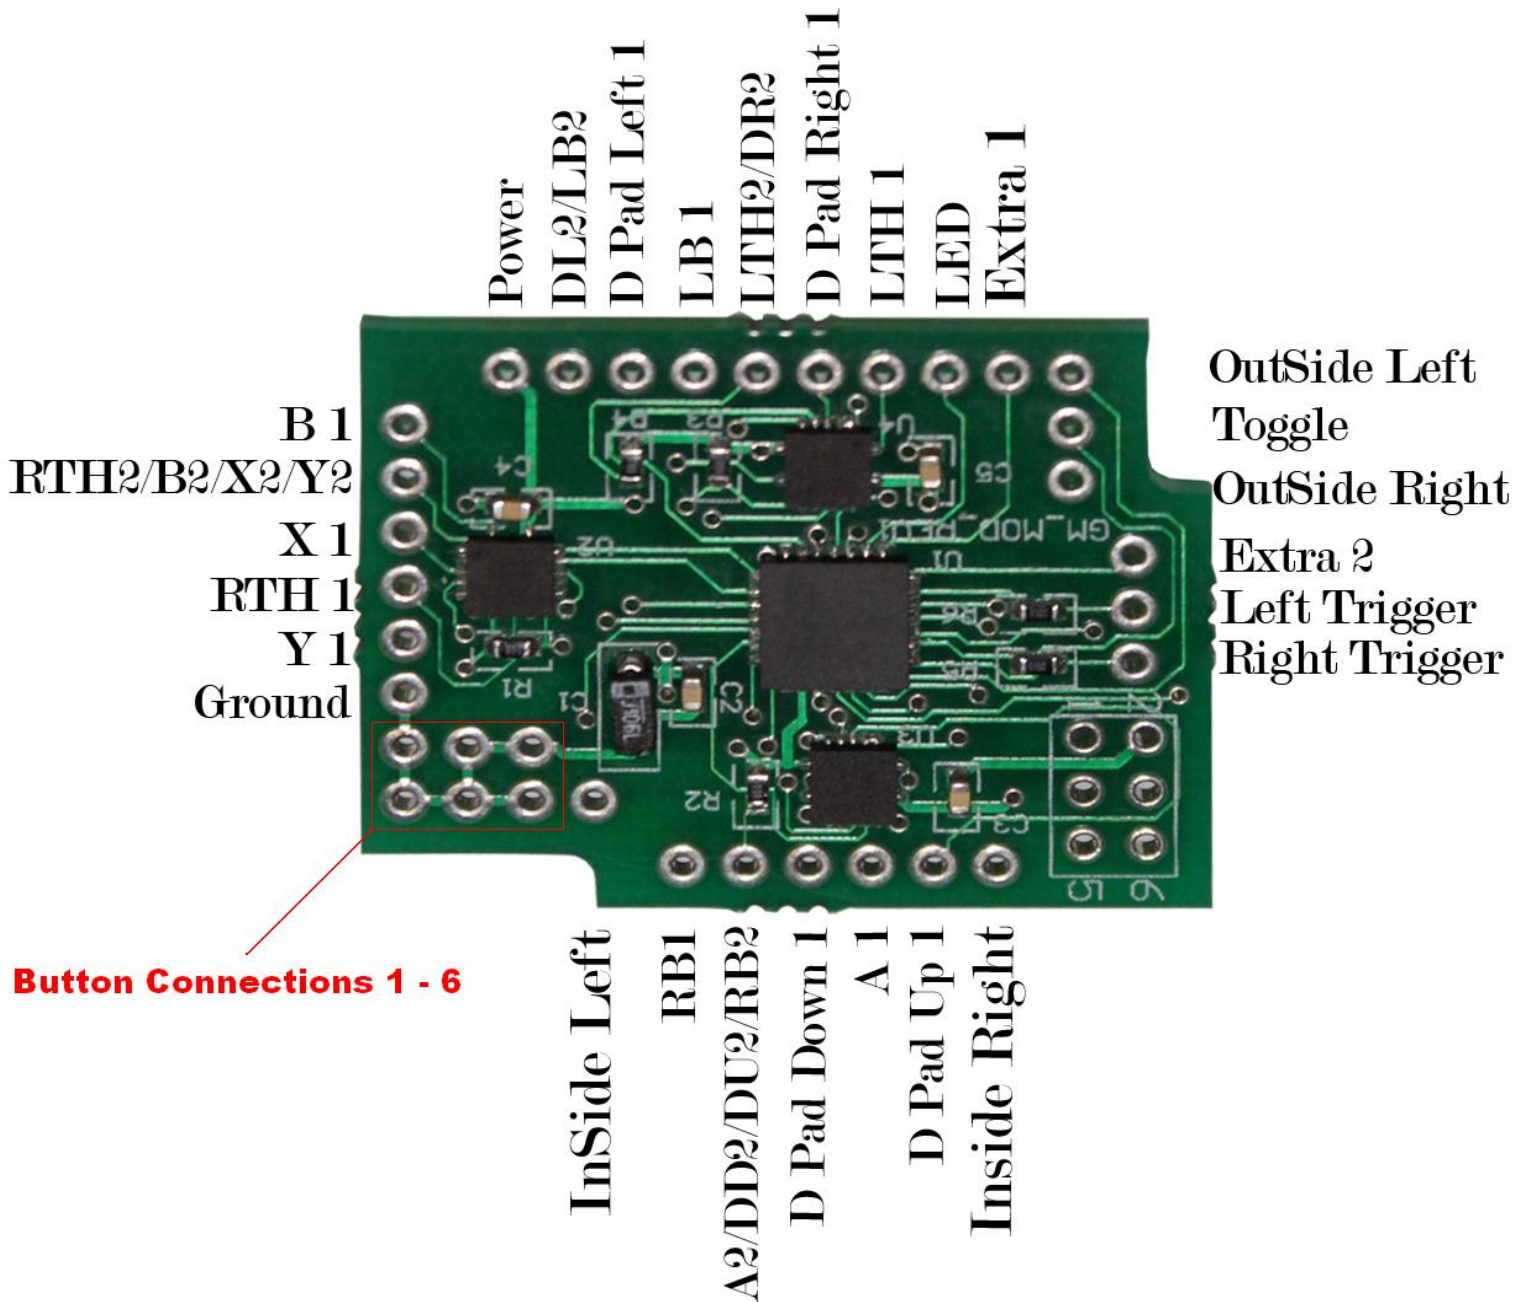

Figure 2
5. Take circuit board out of controller and set it to the side and place the back of the controller on the tables. See Figure 2